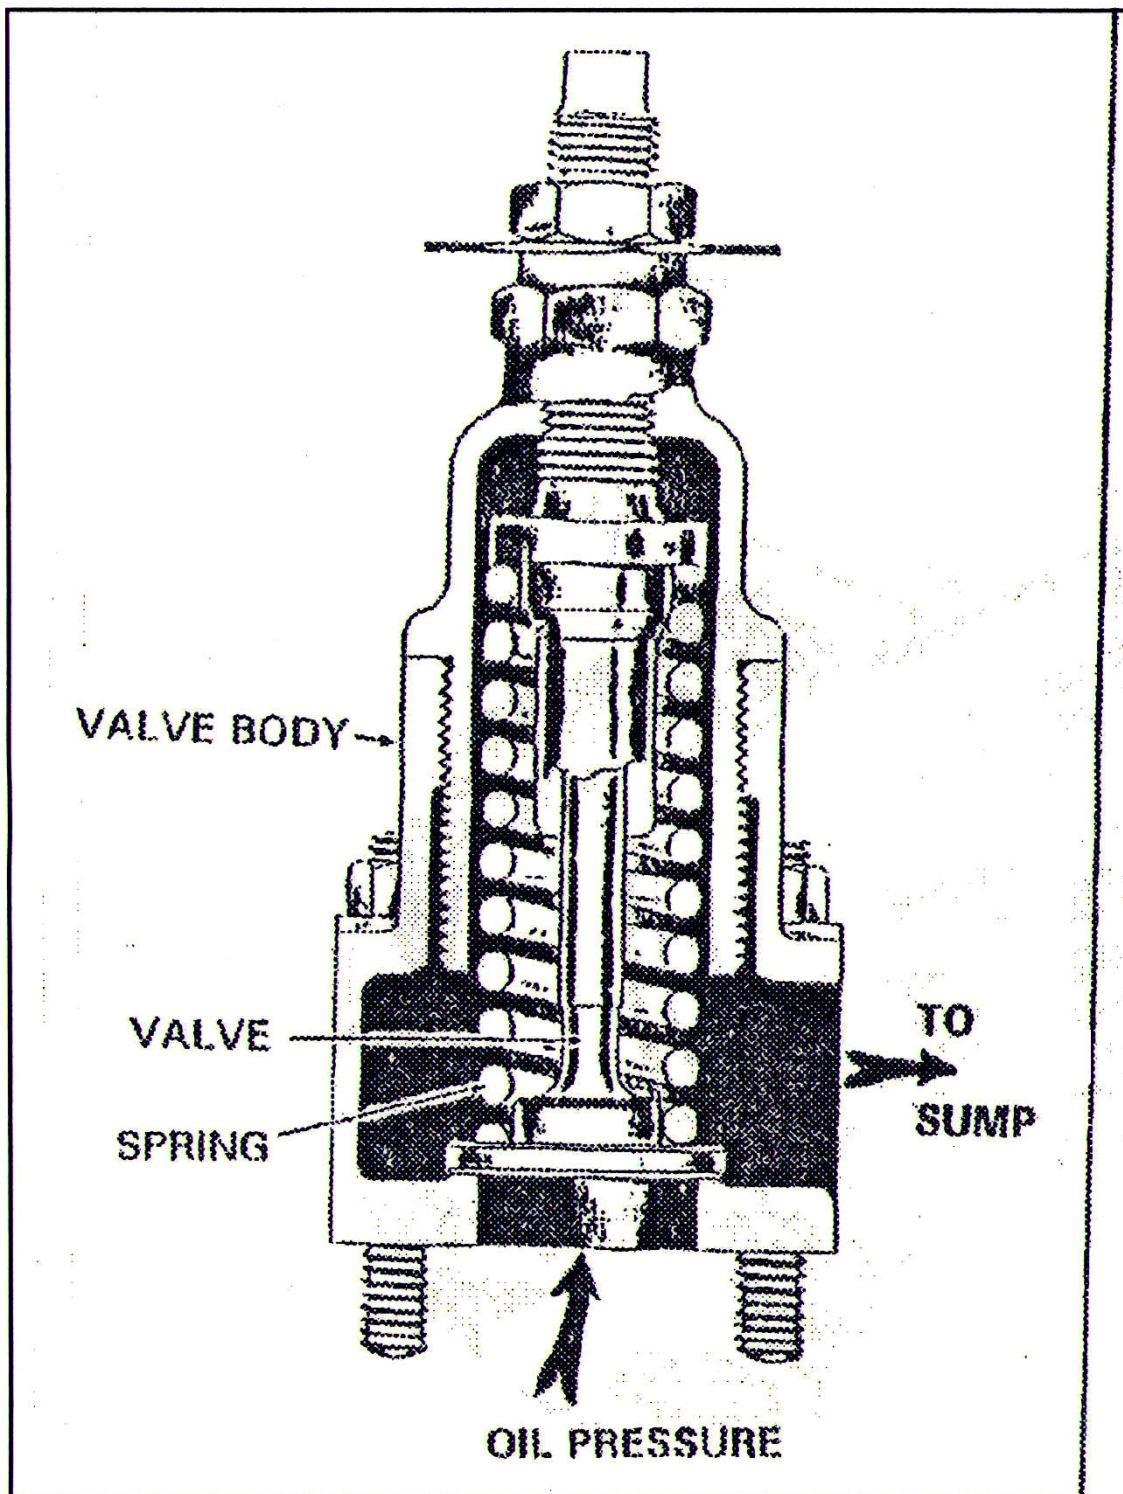

Figure 5-11 Pressure Relief Valve
5.2.7 Pressure Relief Valve (Figure 5-11)
Lube oil pressure from the main oil header or pump is applied to the bottom of the valve as shown in Figure 5-11. The maximum lube oil pressure is set by adjusting the pre-load of the spring which acts to hold the valve closed. When the lube oil pressure exceeds the force of the spring, the valve lifts and the excess pressure is returned to the lube oil sump.